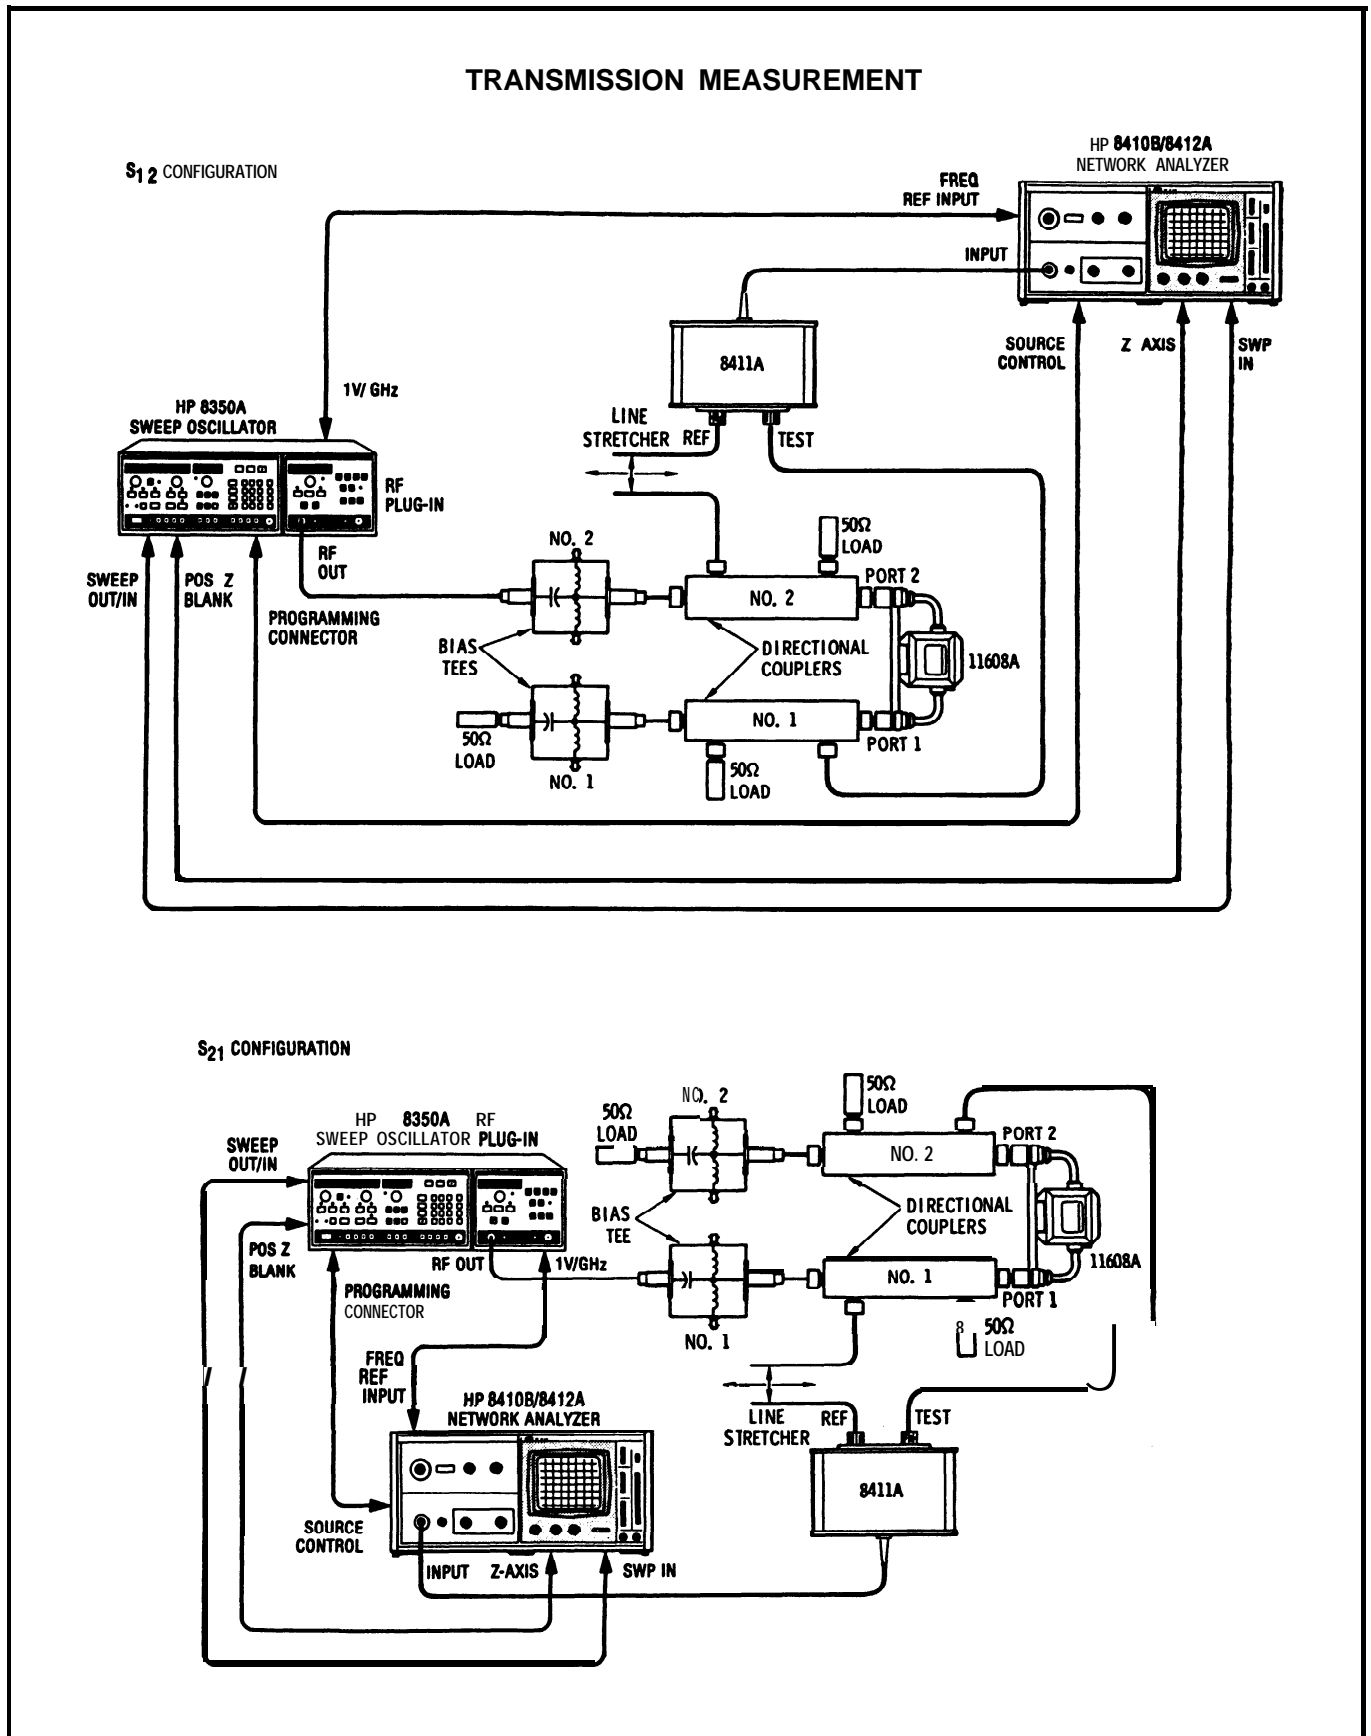

Figure 7. Transmission Measurement Procedure (Sheet 1 of 2)
1. Connect the equipment for **S21** or **S12** as shown in Figure 7.